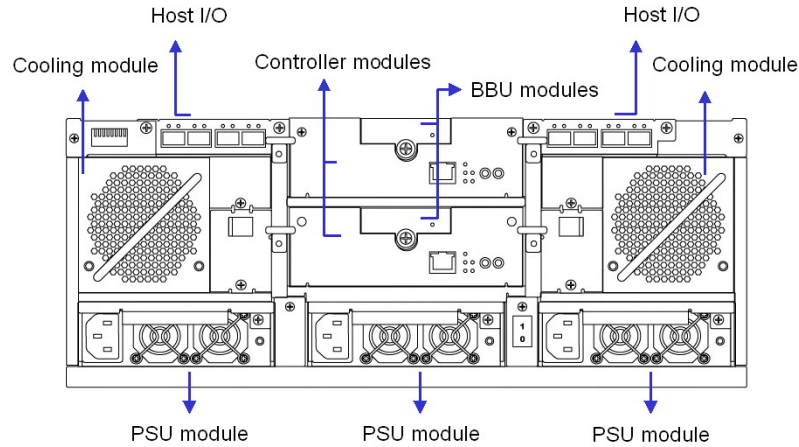
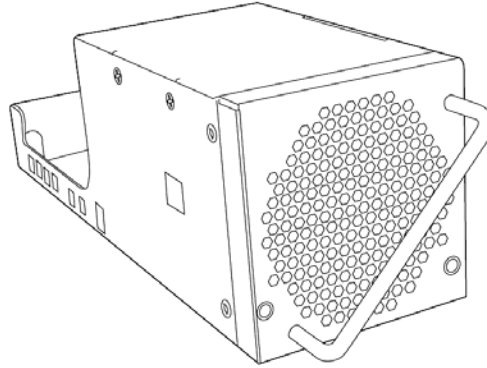

Figure 1-5: Galaxy A24F-R2224 RAID Subsystem Rear View
Figure 1-11: Cooling Module
The rear panel of the A24F subsystem is shown in **Figure 1-5**. The rear panel provides access to all the components located in the rear half of the RAID subsystem enclosure.
The A24F subsystems come with two (2) hot-swappable, redundant, dual-fan cooling modules (shown in **Figure 1-11**) preinstalled in the subsystem. Two (2) 8cm blowers are housed in each cooling module and provide ventilation airflow from the front to the rear of the subsystem, extracting the heat generated by the SATA hard drives and other components. The two (2) cooling fan modules are installed directly above the PSUs. (See **Figure 1-5**)